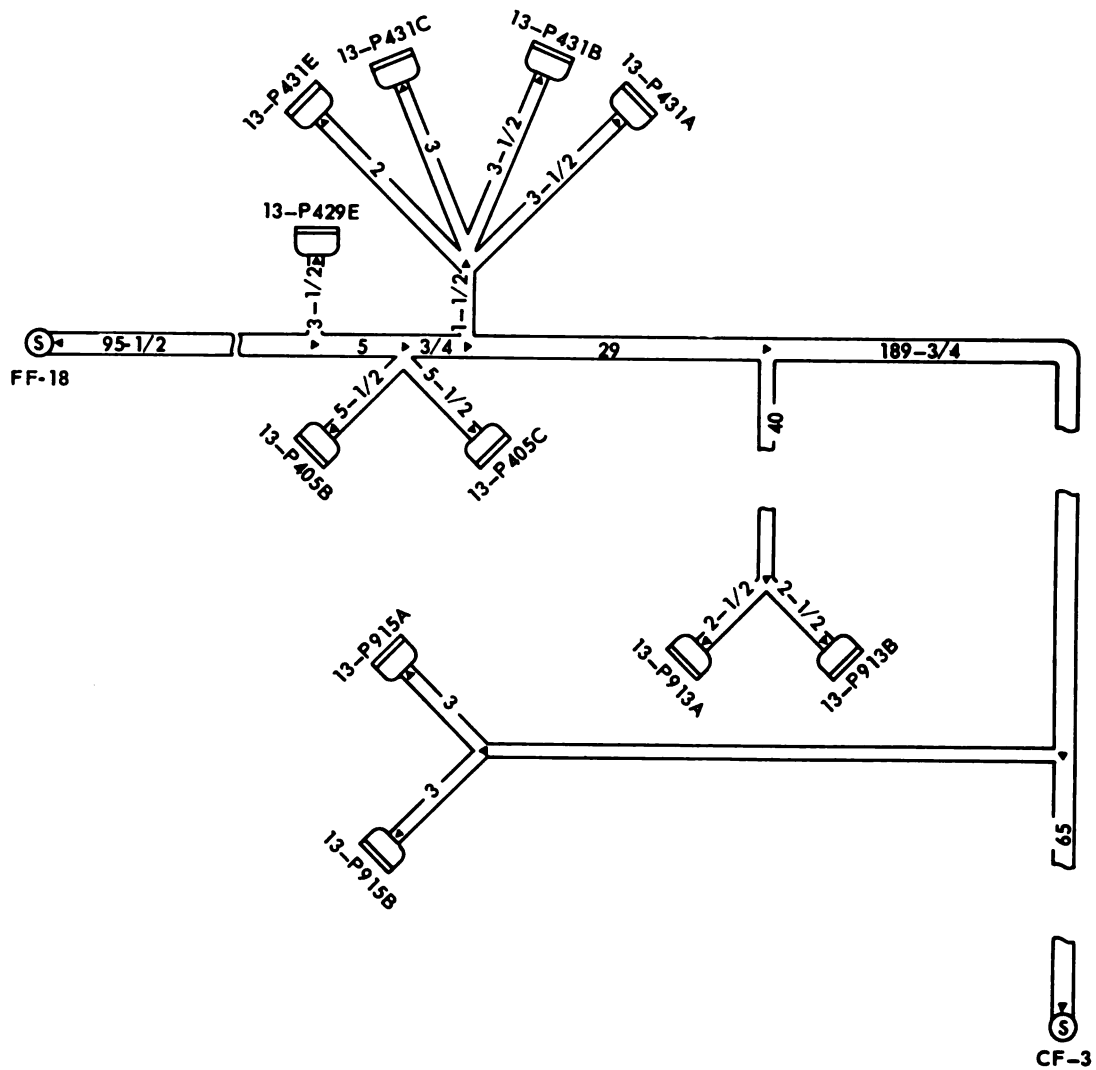

Figure 12-8. Typical Dimensional Layout
- a. A dimensional layout. (See figures 12-8 and 12-9). The drawing title of each layout indicates the airplane area in which the wire bundle is installed, the individual airplane code number, and the bundle number within the area.